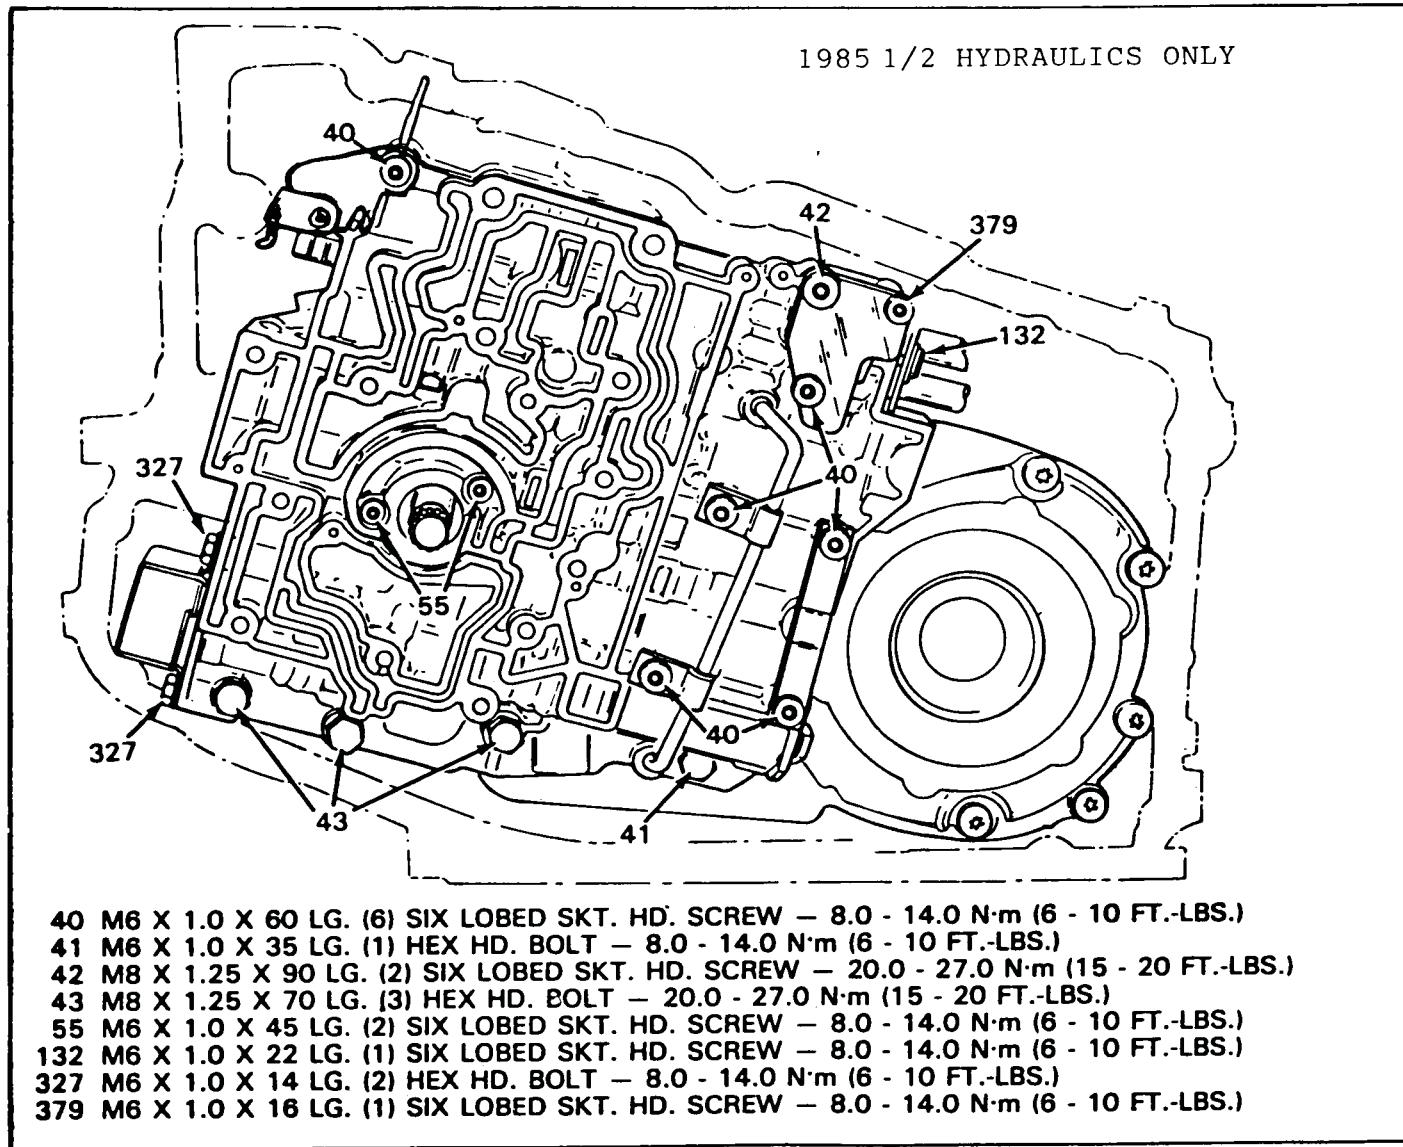

Figure 40
1. Remove servo pipe retaining bracket bolt, marked 132 in Figure 40, and remove pipe retaining bracket.
3. Remove six 30 torx head bolts, marked 40, in Figure 40. Also remove tension plate, pipe brackets, and throttle valve linkage assembly.
4. Remove one 40 torx head bolt marked 42, in Figure 40.
5. Remove three 13mm bolts marked 43, in Figure 40.
6. Remove two 30 torx head bolts marked 55, in Figure 40.
7. Remove one 10mm bolt (Sometimes 30 Torx) marked 41 in Figure 40.